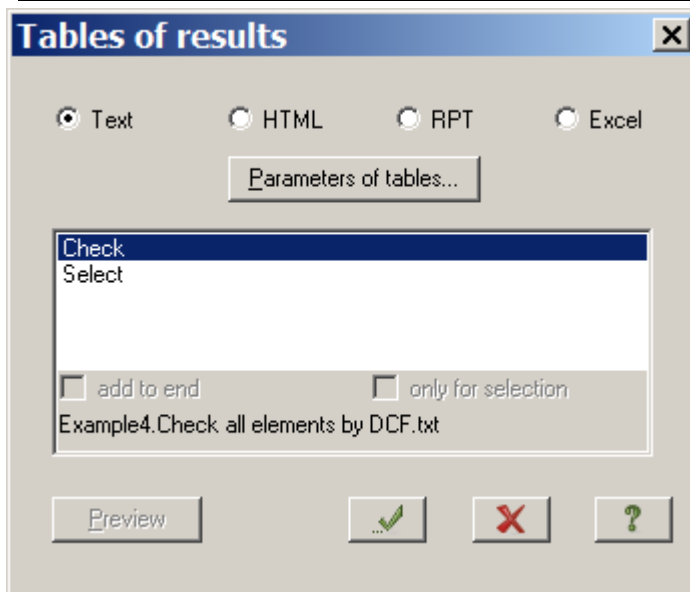

Figure 4.36 **Tables of results (steel analysis)** dialog box
- ⇒ In the **Table of results** dialog box (see Fig.4.36), select the **Check** option.
- ⇒ In the **Table of results** dialog box (see Fig.4.36), define the **Select** option.